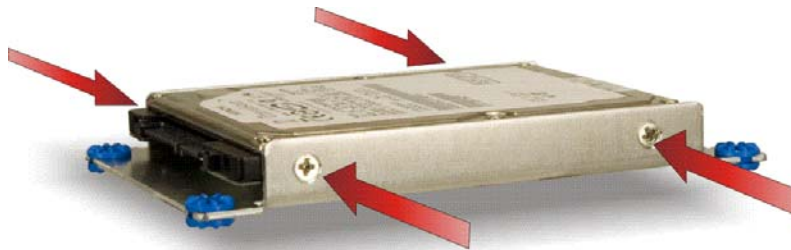

Figure 4-5: AF-12A-N270 HDD Retention Screws
- Step 4:** Attach the HDD brackets to the HDD. To do this, align the four retention screw holes in the both sides of the HDD bracket with the retention screw holes on the sides of the HDD. Insert four retention screws into the HDD bracket (**Figure 4-5**).